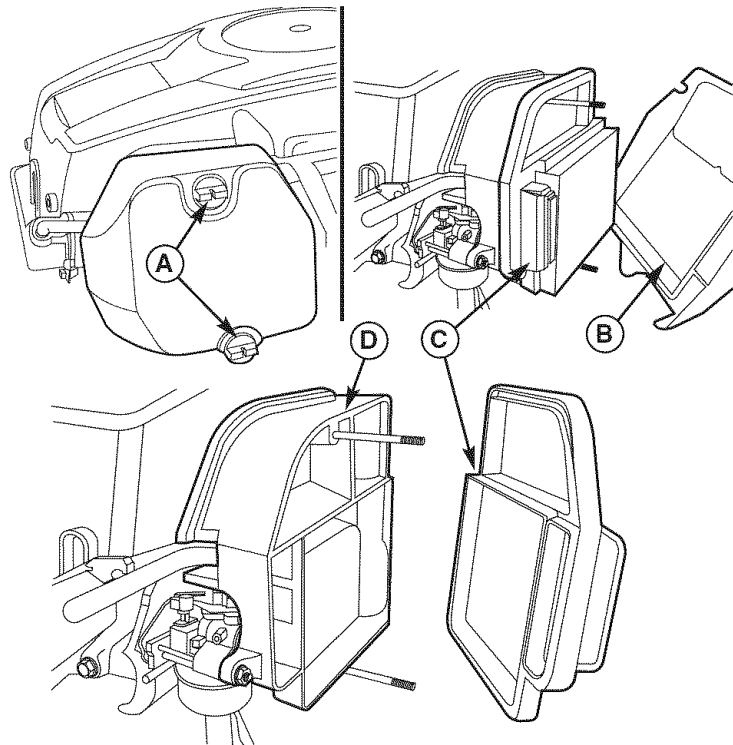

Figure 26. Air Filter Assembly - Kohler Models
1. Loosen the air filter cover knobs (A, Figure 26) and remove the cover (B). Clean out any debris from around the air filter. Inspect the condition of the sealing surfaces of the air filter element (C) and filter base (D). Replace any damaged parts.
2. Remove the air filter element (C).
3. Install the new air filter element with the pleated side out and seat it onto the edges of the air cleaner base (D).
4. Reinstall the air filter cover (B) and secure with the two knobs (A).